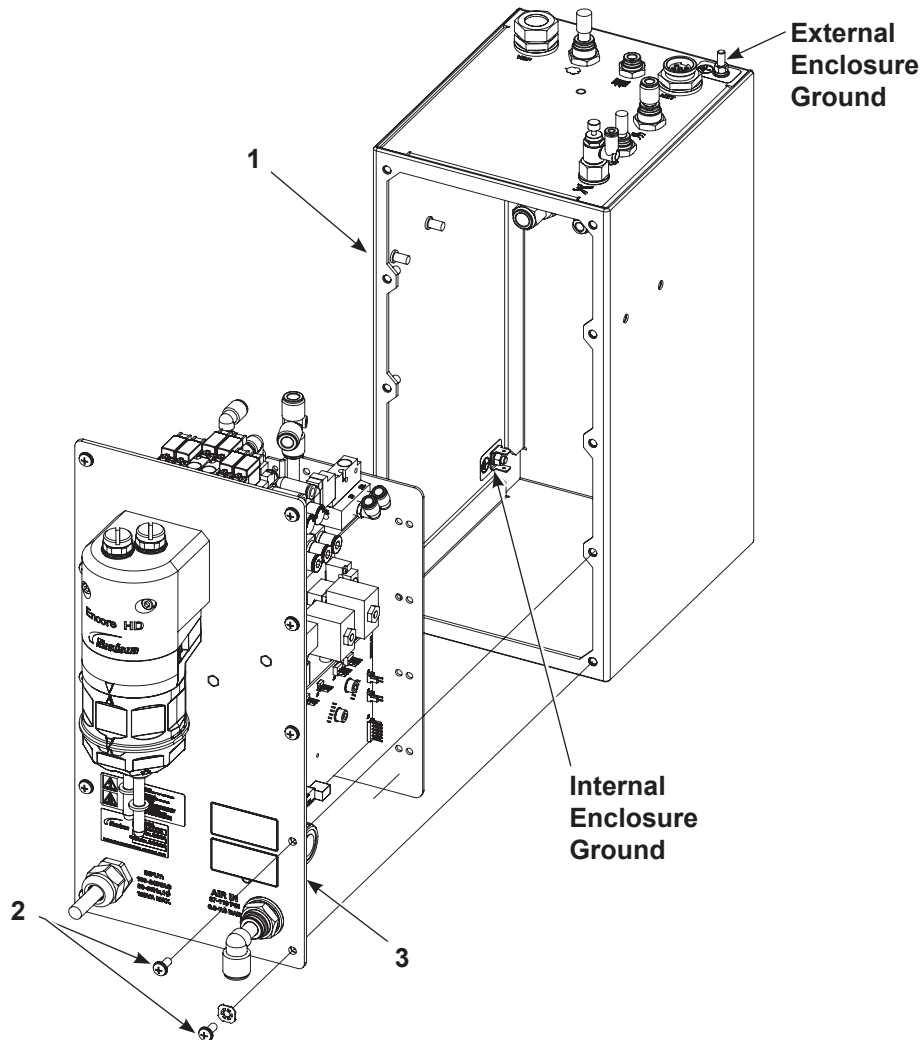

Figure 2 Sub-Panel Removal
3. See Figure 2. Remove the ten screws (2) securing the panel assembly (3) to the enclosure (1).